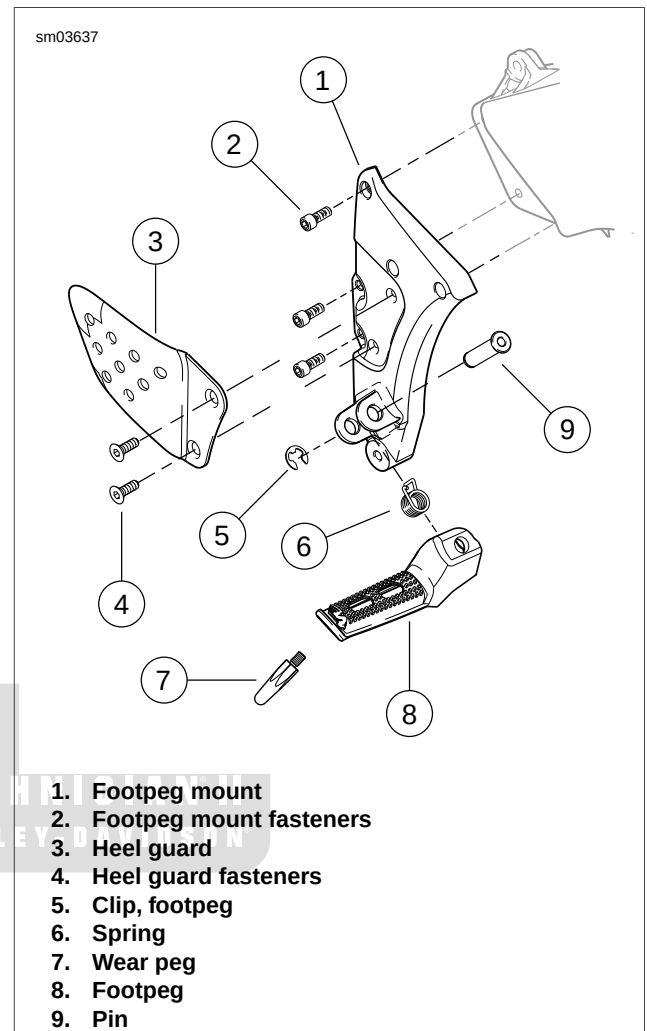

Figure 2-155. Rider Footpeg, Mount and Heel Guard:
1. See Figure 2-155. Remove wear peg (7) from end of footpeg assembly.
1. See Figure 2-155. Remove clip (5).
2. Remove footpeg pin (9).
3. Remove footpeg (8).
1. See Figure 2-155. Remove heel guard fasteners (4).
2. Remove heel guard (3).
1. See Figure 2-155. Remove footpeg mount fasteners (2).
2. Remove footpeg mount (1).
1. See Figure 2-155. Position footpeg mount (1).
2. Install footpeg mount with fasteners (2). Tighten to 132-144 in-lbs (14.9-16.2 Nm).
1. See Figure 2-155. Position heel guard (3) onto footpeg mount (1).
1. See Figure 2-155. Position spring (6) in footpeg (8).
2. Position footpeg (8) and spring in footpeg mount (1).
3. Install footpeg pin (9).
4. Install clip (5).
1. See Figure 2-155. Apply LOCTITE 271 (red) and tighten to 36-48 in-lbs (4-5 Nm).
2. See Figure 2-155. Remove footpeg mount fasteners (2).
3. See Figure 2-155. Position footpeg mount (1).
4. Install footpeg mount fasteners (2), and tighten to 132-144 **in-lbs** (15-16 Nm).